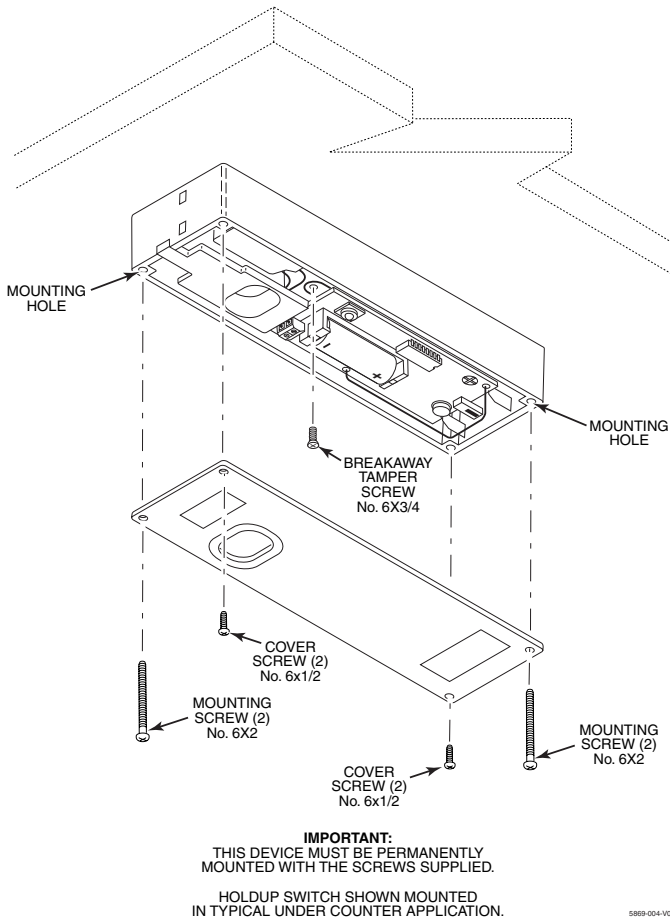

Figure 2. Typical Holdup Switch Installation
2. Position the case to the desired location and install one No. 6 x 3/4 screw (supplied) at the breakaway tamper release hole as shown in Figure 2 .
3. Secure the cover to the case with the two screws (No 6 x 1/2) as shown in Figure 2.
4. Secure the case with the cover to its mounting location using the two screws (No. 6 x 2) supplied as shown in Figure 2.
3. Observing correct polarity, insert the battery into the battery holder as shown in Figure 2.
4. Re-install screws to secure cover and case as shown in Figure 2.